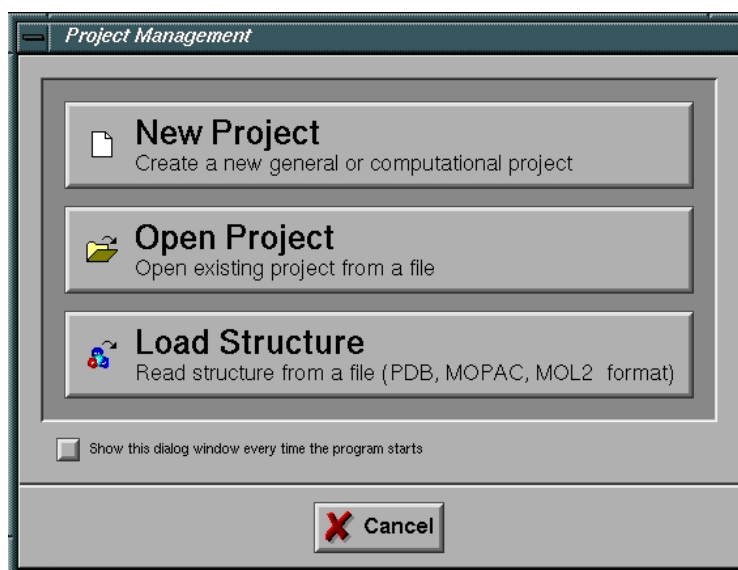

Fig 12.2 Window for project management
- 2) Select the *New Project* button to create a new project (**Fig 12.2**).